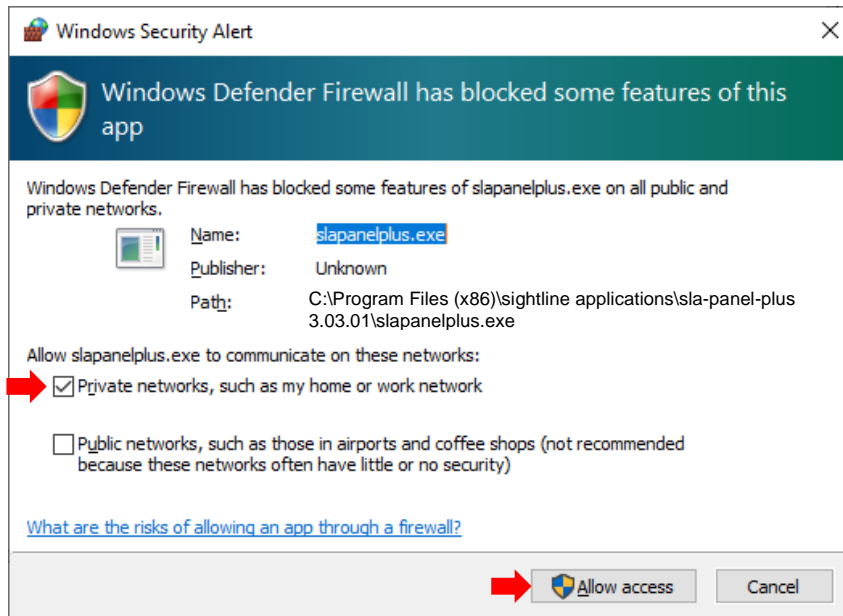

Figure 4: Windows Security Alert Prompt
3. The first time that Panel Plus is launched, a Windows Security Alert prompt should appear. Select *Allow Access* to create a firewall exception (Figure 4).